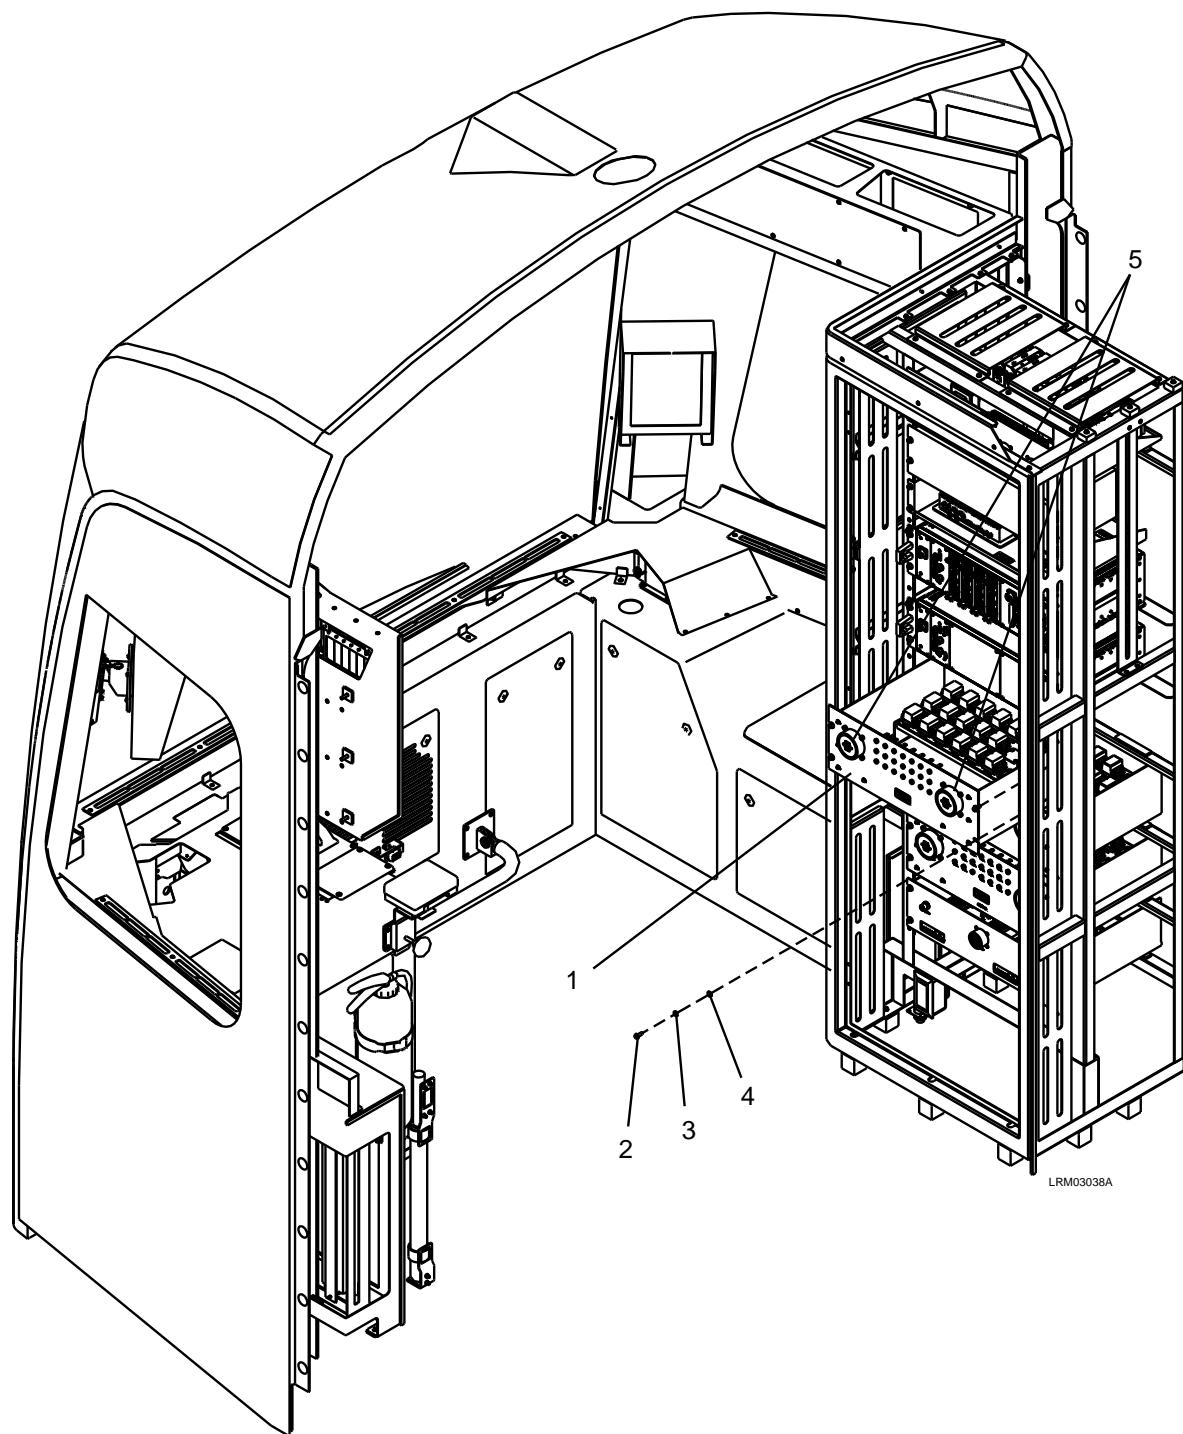

Figure 7-32: CRP6A Panel
2. Disconnect the electrical connectors (5) to the CRP6A Panel (1). See Figure 7-32.
3. Remove the four M6 x 16 screws (2), M6 lock washers (3), and M6 plain washers (4).
4. Carefully remove the CRP6A Panel (1).